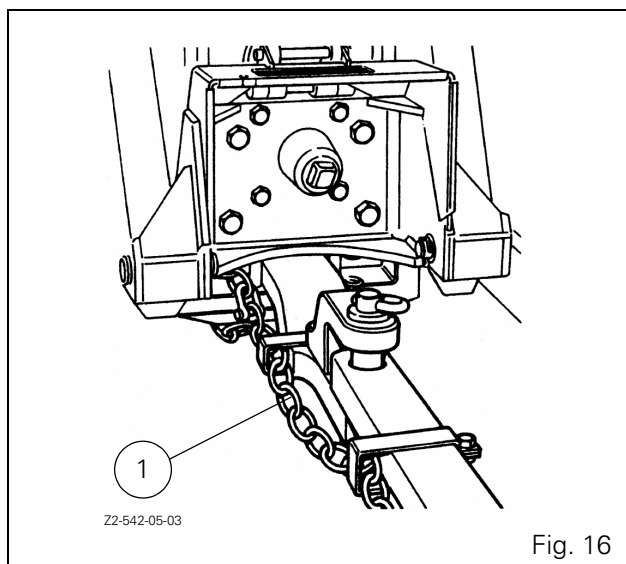

Fig. 16
- A transport chain (1) will help control drawn equipment should it be accidentally separated from the drawbar while transporting. Using the appropriate adapter parts, attach the chain to the tractor's safety chain anchor or any other specified anchor point. Provide only enough slack in the chain to permit turning. Contact your dealer for a chain of equal or greater strength than the weight of the trailed implement (Fig. 16).
- Ensure that all trailed implements are fitted with a safety chain linking the tractor to the implement, if required by law (Fig. 16).